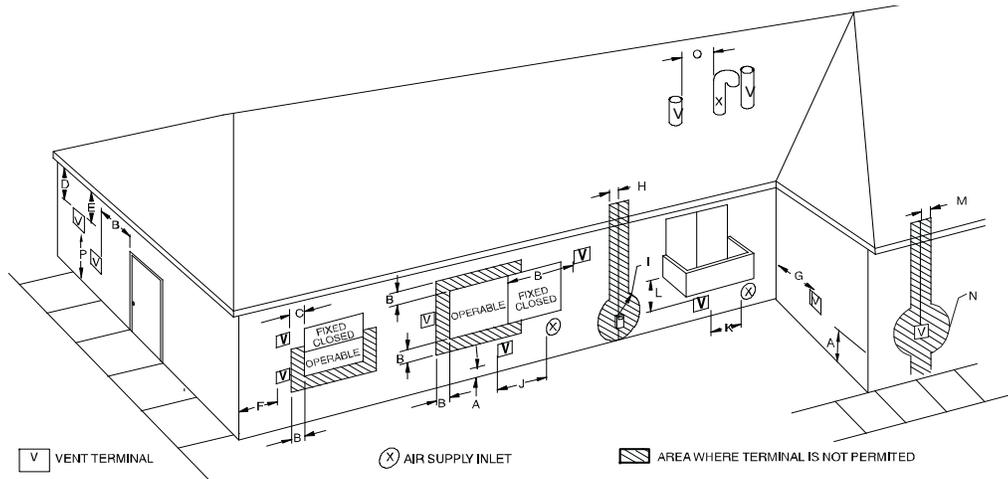
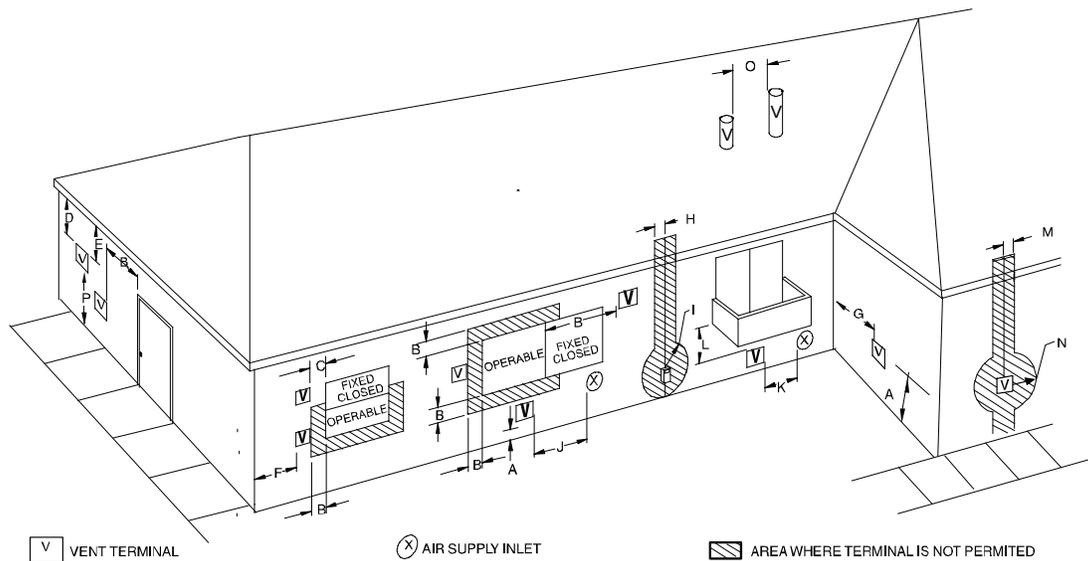

Fig. 44 – Direct Vent Termination Clearance
Fig. 45 – Ventilated Combustion Air and Non-Direct Vent Termination Clearance
In a direct-vent (2-pipe) system, all air for combustion is taken directly from outdoor atmosphere, and all flue products are discharged to outdoor atmosphere. Combustion-air and vent pipes must terminate together in the same atmospheric pressure zone, either through the roof (preferred) or a sidewall. See Fig. 44 for references to clearances required by National code authorities.
In a ventilated combustion air option, the vent terminates and discharges the flue products directly to the outdoors similar to a direct vent system. See Fig. 45 for references to clearances required by National code authorities.
in the Air For Combustion and Ventilation Section. Do not use an abandoned chimney to supply outside air to the furnace. See Fig. 45 for references to vent clearances required by National code authorities.
For vent termination clearance, references to National codes are shown in Fig. 44 for Direct Vent/2-Pipe system and Fig. 45 for Ventilated Combustion Air/Non-direct Vent/1-Pipe system. For exterior termination arrangements, refer to Fig. 41 for Direct Vent/2-Pipe system and Fig. 42 for Ventilated Combustion Air/Non-Direct/1-Pipe system. Contact Local code authorities for other requirements to and/or exemptions from the National codes shown in the figures.
1. Comply with all clearance requirements stated in Fig. 44 or Fig. 45 per application.
Direct vent (2-pipe) vent and combustion air pipes must terminate outside the structure. See Fig. 44 For references to vent clearances required by National code authorities. Allowable vent and combustion air terminations are shown in Fig. 41.
The vent pipe for a Ventilated Combustion Air System must terminate outdoors. See Fig. 45 for references to vent clearances required by
The vent pipe for a Non Direct Vent (1-pipe) system must terminate outdoors. See Fig. 45 for references to vent clearances required by National Code authorities. Allowable vent terminations are shown in Fig. 42.